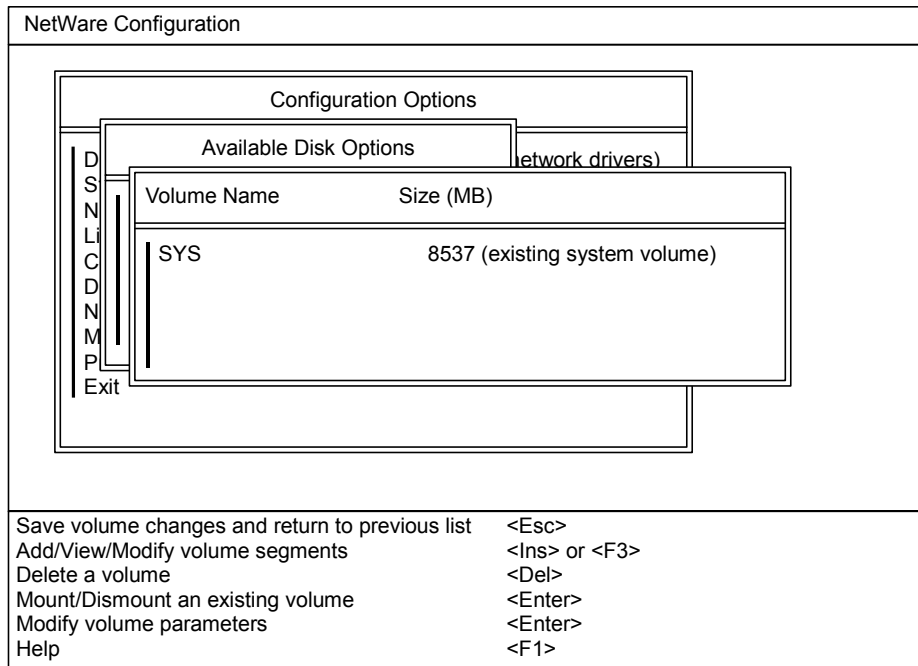

Figure 3.9 Displaying the Existing Volumes and Volume Options
After you have created the disk partitions on the new devices, you are ready to assign the new SCSI disk devices to volumes, so that the NetWare® system can start writing to the new devices. Figures 3.9 through 3.15 show the sequence of screens displayed on the NetWare® server during the volume assignment process. **Reminder:** A volume can span as many as 32 devices, so you can assign more than one device to a volume.
2. The existing volumes are listed by volume name, and the volume options are displayed at the bottom of the screen (see Figure 3.9). Execute the **Add/View/Modify volume segments** command by pressing the **Ins** or **F3** key.